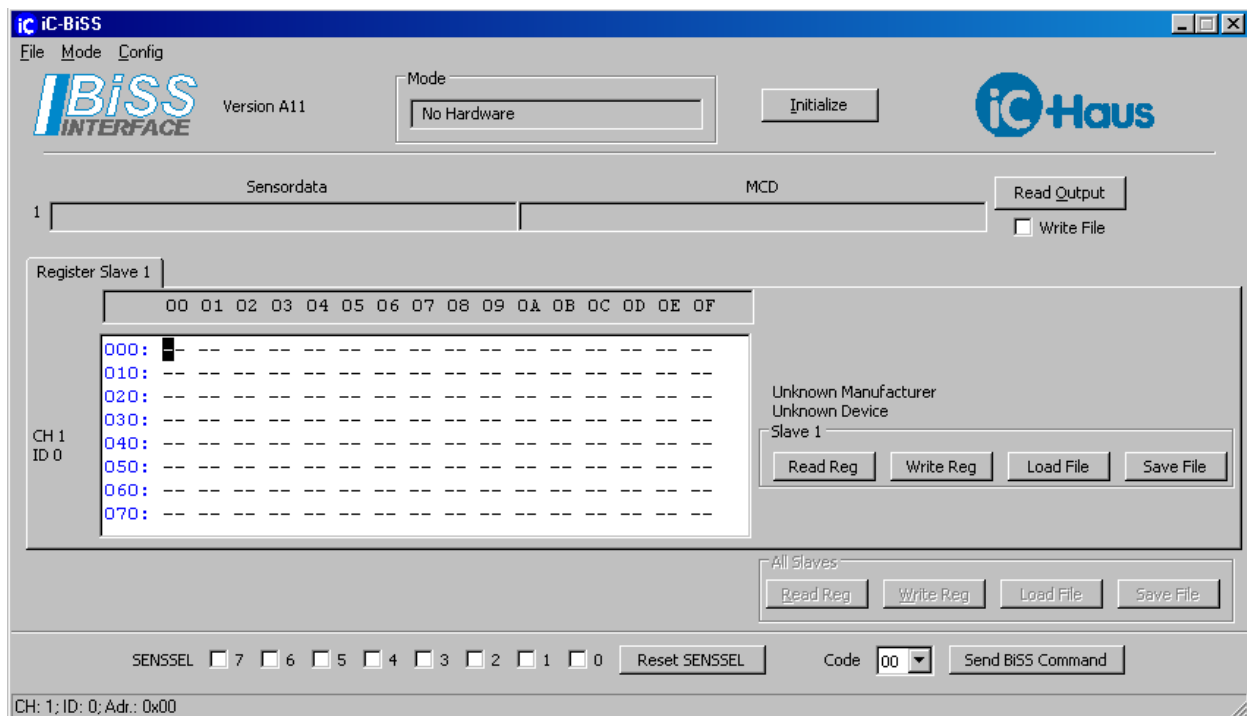

Figure 4: Screenshot
3. Installation will make the software "BiSS_xx.exe" available in the selected working directory. The execution of this file will start the software. Figure 4 shows a screenshot of the start up window.